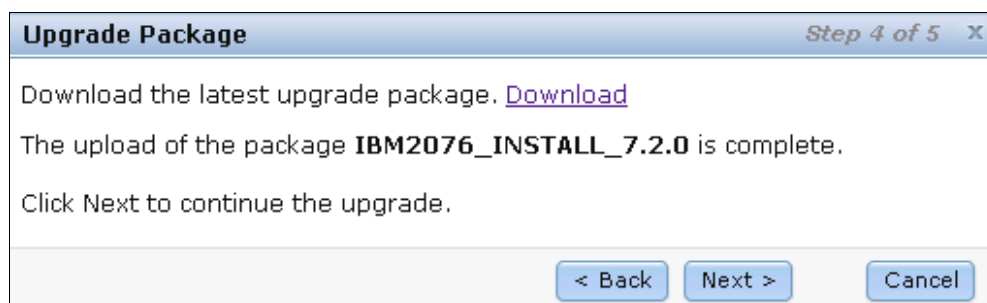

Figure 13-16 System ready to upgrade
9. Download the IBM Storwize V7000 software upgrade package, or browse and upload the software upgrade package from the location where you saved it. Verify that file is successfully loaded into the system (Figure 13-16).